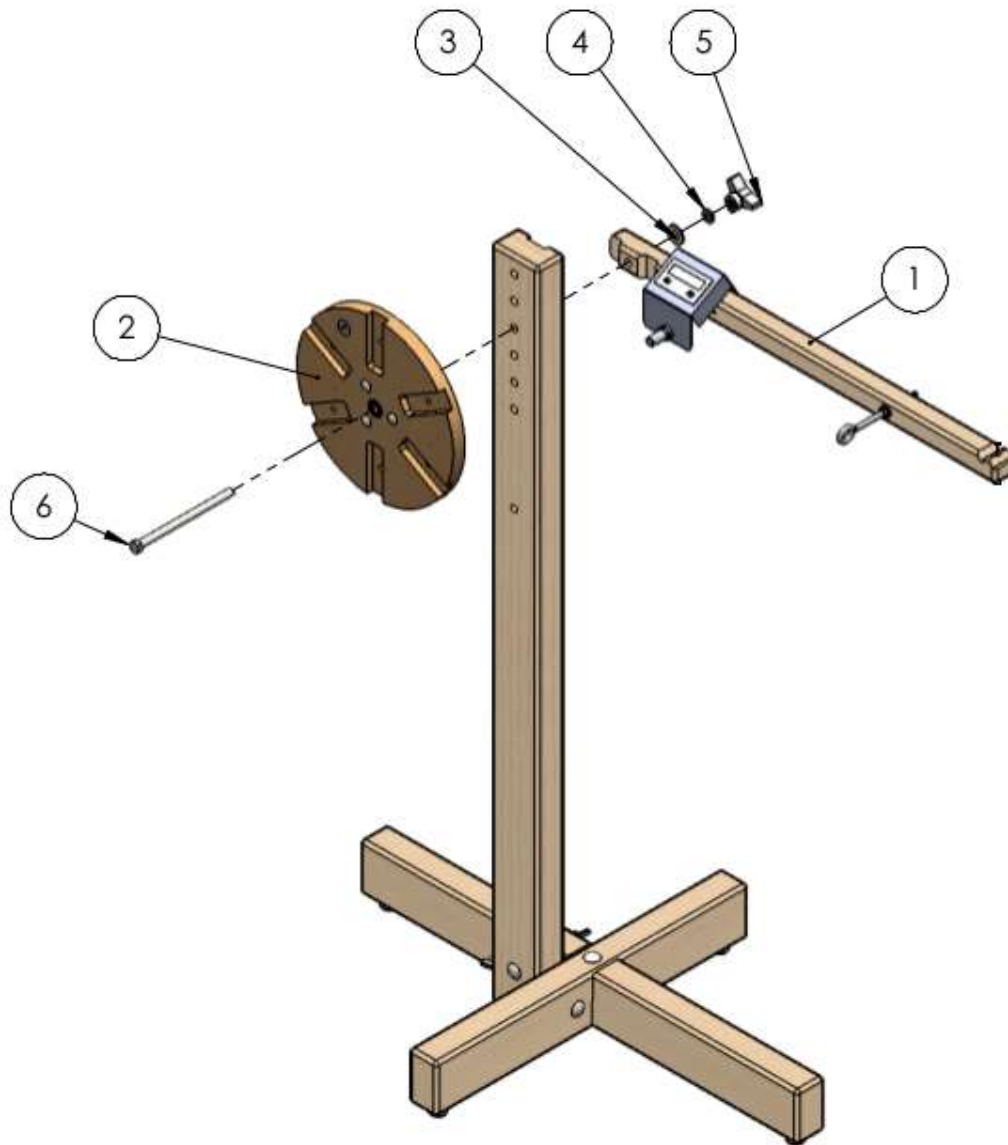

Figure 5 – Drum Support
- 1) Remove the three arm knob, one lock washer, and one flat washer from drum assembly. (Figure 5)
- 2) From the front, insert the center bolt of the drum assembly through the selected hole on the vertical. (Figure 5)
- 3) From the back, attach the raddle support to the back of the vertical (Figure 5)
- 4) Secure the bolt with a flat washer, then a lock washer, and, finally, the three arm knob -- tighten firmly. (Figure 5)